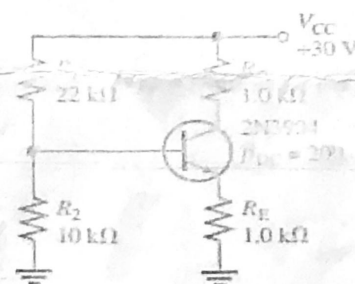

Figure Q6c
- (c) For the circuit in Fig Q6c find the following: